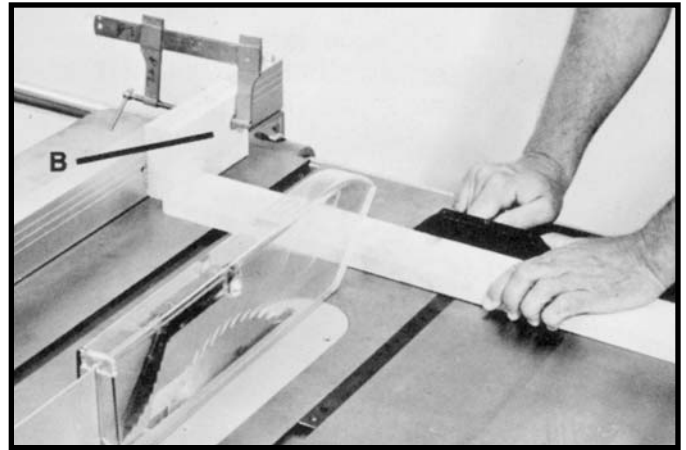

Fig. 121A
**⚠ WARNING: NEVER USE THE BIESEMEYER FENCE SYSTEM AS A CUT-OFF GAGE WHEN CROSS-CUTTING WITHOUT USING (B) FIG. 121A.**
When cross-cutting a number of pieces to the same length, a block of wood (B) can be clamped to the fence and used as a cut-off gage as shown in Fig. 121A. It is important that this block of wood always be positioned in front of the saw blade as shown. Once the cut-off length is determined, secure the fence and use the miter gage to feed the work into the cut.
**IMPORTANT:** When using the block (B) Fig. 121A, as a cut-off gage, it is very important that the rear end of the block be positioned so the work piece is clear of the block before it enters the blade.